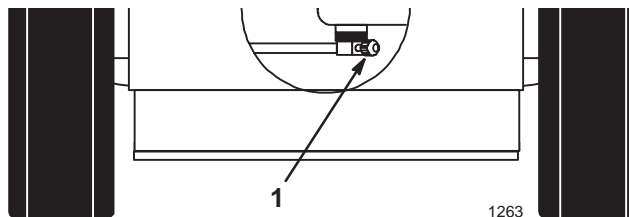

Figure 26
3. Close fuel shut-off valve at fuel tank (Fig. 26).
8. Open fuel shut-off valve at fuel tank (Fig. 26).